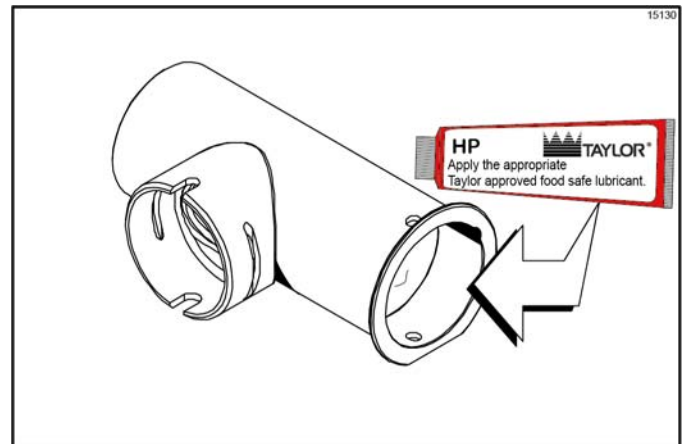

Figure 6-36
- Apply a thin layer of lubricant to the inside of the pump cylinder at the retaining pin end. (See Figure 6-36.)